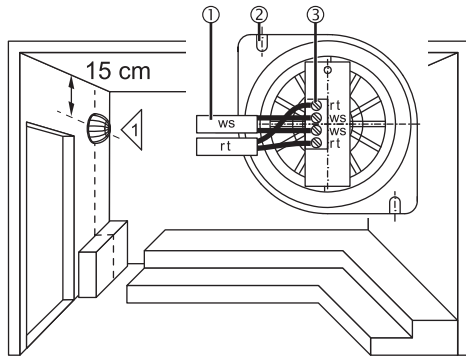

Fig. 7 Installing stove sensor F1
1. Connect the lines (Fig. 7/Item 1) on the stove sensor as shown (Fig. 7/Item 3).
2. Fasten the stove sensor to the wall at the centre above the sauna stove at a distance of 15 cm to the ceiling using the screws provided. The screws are guided through the openings (Fig. 7/Item 2).
2. Remove one of the red lines from the safety temperature limiter (STB) (Fig. 7/Item 3). The control must then display an STB error (E01) and the stove must switch off automatically.
3. Remove one of the white lines from stove sensor F1 (Fig. 7/Item 3). The control must then display a stove sensor error (E02) and the stove must switch off automatically.
4. Short-circuit the terminals for stove sensor F1 (Fig. 7/Item 3). The control must then display a stove sensor error (E02) and the stove must switch off automatically.